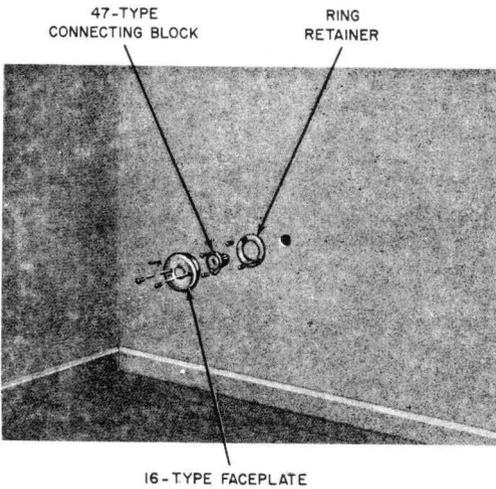

Fig. 15—Faceplate, Connecting Block, and Ring Retainer Associated with 63A Bracket
- Tool, 934A [modular jack line polarity tester (Fig. 15)].♦